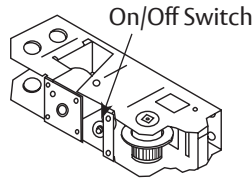

Figure 8
1. Turn off power on holder ON/OFF switch. (Figure 8)
- f. Turn on power on holder ON/OFF switch. (Figure 8)